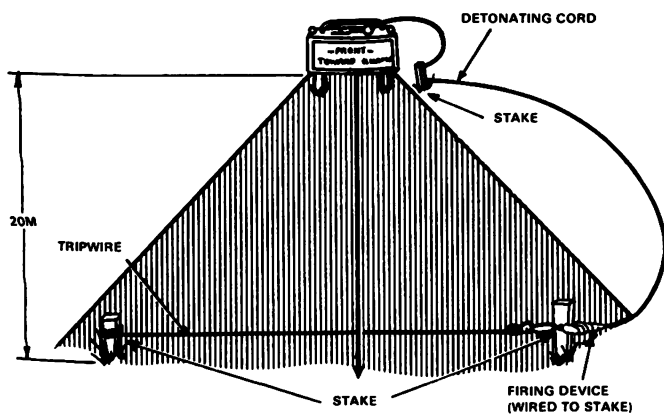
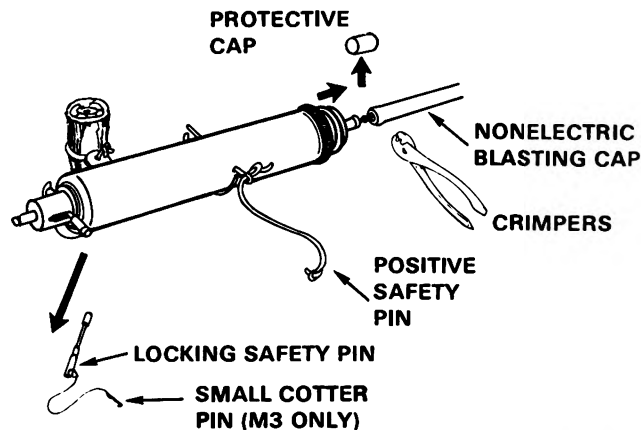

Figure 1a.
Figure 2. Attaching the nonelectric blasting cap.
2. **Setting up the Claymore to Fire with Tripwires.** Setting up the claymore can be done several ways; figure 1 shows two methods. For purposes of this task, only the method in figure 1a will be explained.
- a. Emplace two anchor stakes, approximately 20 meters to the front of the mine, and space them 10-20 meters apart (figure 1a).
- (1) Remove protective cap.
- (2) With crimpers, attach blasting cap to standard base (figure 2).
(4) Using tape, wire, twine, or cord, fasten the firing device securely to one of the stakes you emplace in step 3a (figure 1a).